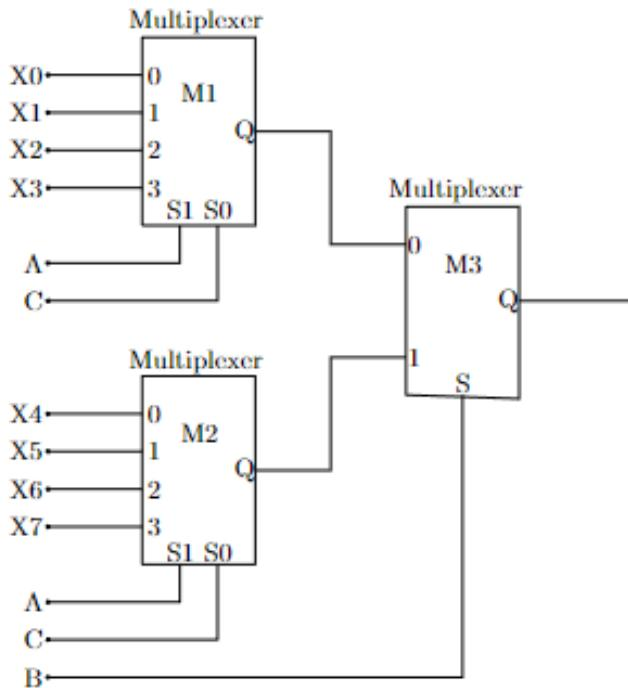

Fig. 4.27: Digital Circuit
52. A Boolean digital circuit is composed using two 4-input multiplexers $M1$ and $M2$ and one 2-input multiplexer $M3$ as shown in the Fig. 4.27. X_0-X_7 are the inputs of the multiplexers $M1$ and $M2$ and could be connected to either 0 or 1. The select lines of the multiplexers are connected to Boolean variables A , B and C as shown. Which one of the following set of values of $(X_0, X_1, X_2, X_3, X_4, X_5, X_6, X_7)$ will realise the Boolean function $\overline{A} + \overline{AC} + A\overline{BC}$?